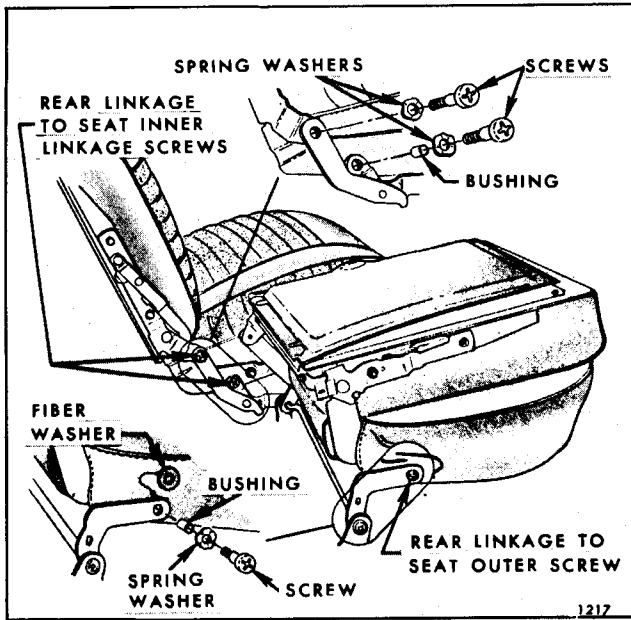

Fig. 14-80-Floor Pan Rear Linkage (Vista Cruiser "66" Style)
2. Remove screws securing rear floor pan linkage to each side of seat cushion frame; then, remove linkage assembly from seat (Fig. 14-80).
3. To install, reverse removal procedure. Inserts in Figure 14-80 show relationship of linkage, bushings and attaching screws.
2. Remove floor pan rear linkage-to-seat inner linkage attaching screws (Fig. 14-80).
2. Remove outer linkage cover. Remove rear floor pan linkage to seat outer attaching screw (Fig. 14-80).